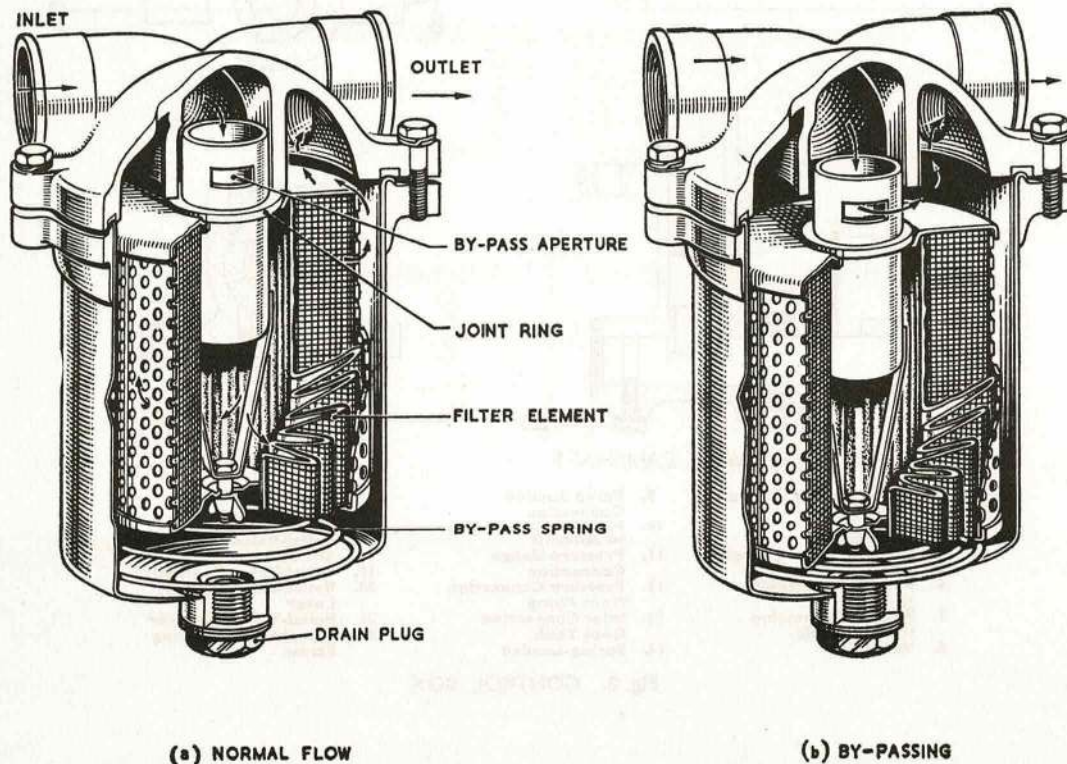

Fig. 9. OIL FILTER
36. The oil filter (Fig. 9) is of the automatic by-pass type and it contains a felt and gauze element which, in its normal working position, is supported by a conical spring. In the event of the filter becoming choked, the increased pressure overcomes the resistance of the spring and forces the element downwards, thus allowing the fluid to flow directly to the outlet.